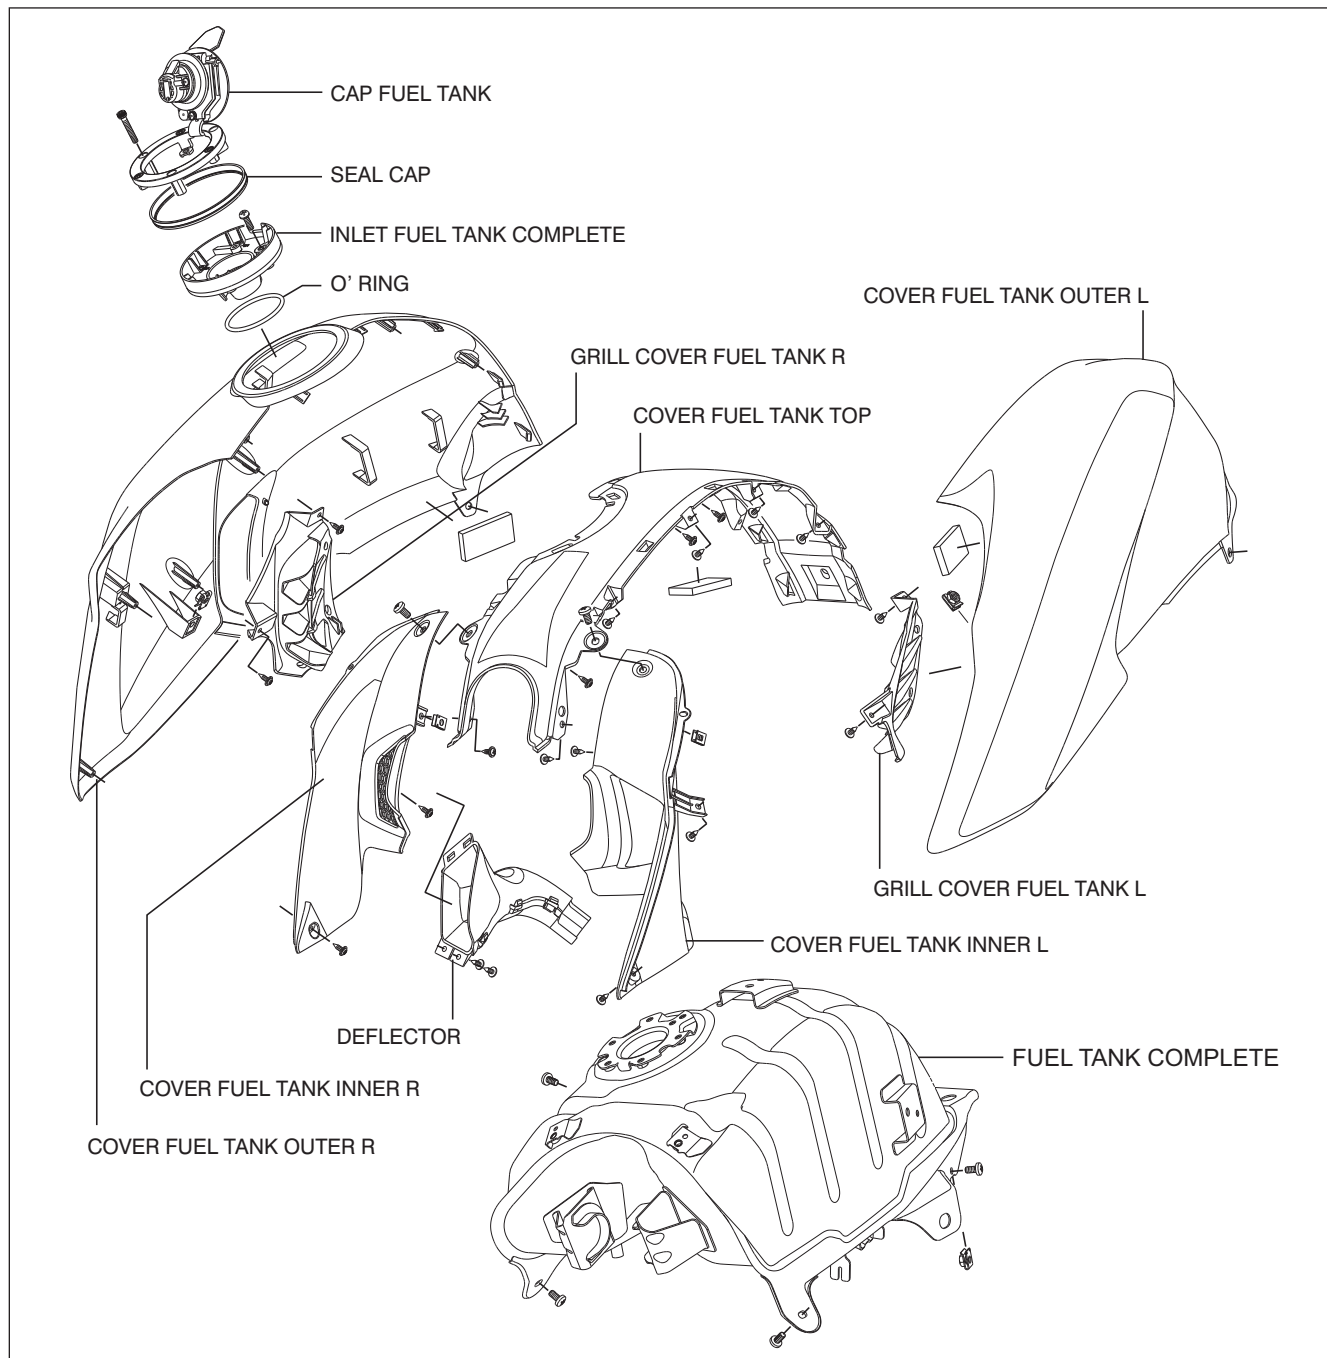

Fig. 2.22
- Refer exploded view for assembly details. (Fig. 2.22)